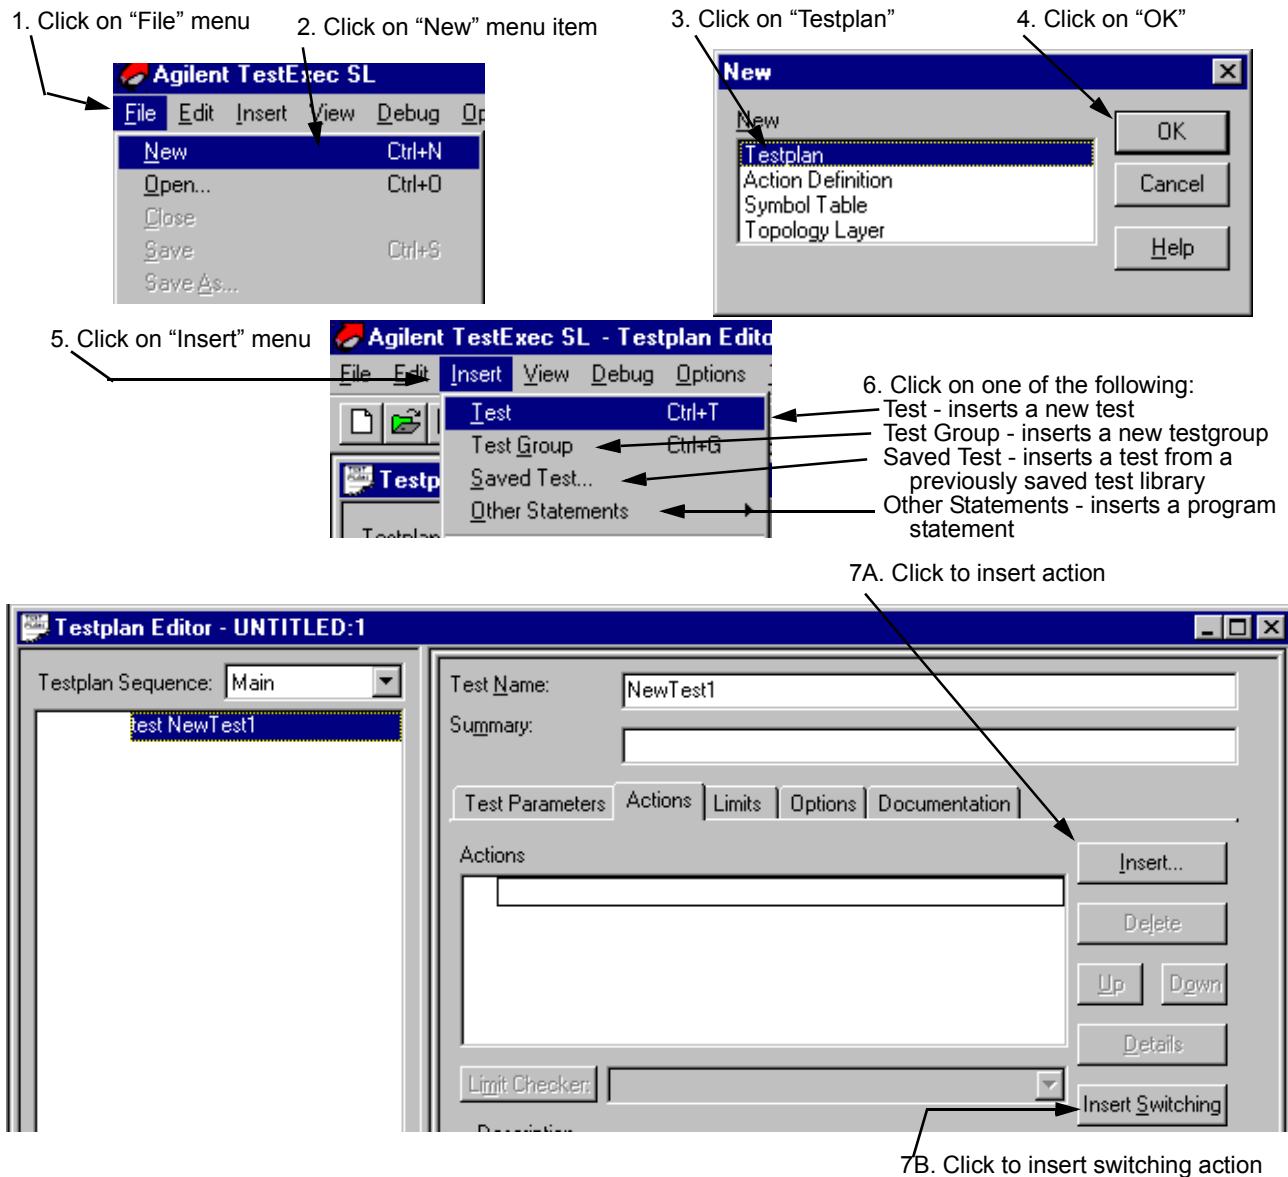

Figure 2-2. Creating a Testplan
Figure 2-2 shows how to create a testplan.
3. If using a new testplan, do the procedure in Figure 2-2 on page 18 to add a test. If using an old testplan, select the test into which you wish to add an action and continue with step 4.